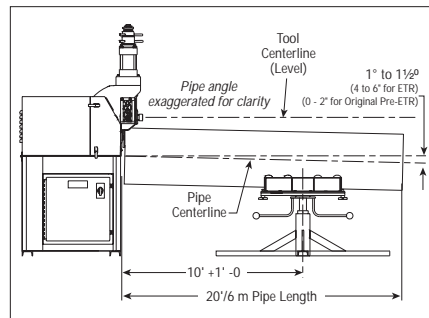

Figure 3 - Support of Pipe
3. If the tool is properly set up in a level position, but the back end of the pipe is higher than the end being grooved, the pipe may not track. In addition, excessive flare may occur on the pipe end. Refer to the "Tool Setup" section, starting on page 7, and Figures 3 and 4 on this page for tool setup and pipe positioning requirements.
- Figure 3 shows the Victaulic Adjustable Pipe Stand (VAPS 224), which is suitable for 2 – 24-inch pipe.
4. Place the pipe stand at a distance slightly beyond half the pipe length from the tool. Refer to Figure 3 below.
6. When grooving pipe using ETR rolls, adjust the height of the pipe stand to position the pipe approximately 1° to $1 1/2^\circ$ below level ($1/4$ inch/foot or 20 mm/m). Refer to Figure 3 above. **NOTE:** The pipe must be inserted into the rolls while the height of the pipe stand is adjusted. When grooving pipe with original (Pre-ETR) rolls, use $0^\circ - 1/2^\circ$ ($1/16$ inch/foot or 5 mm/m).